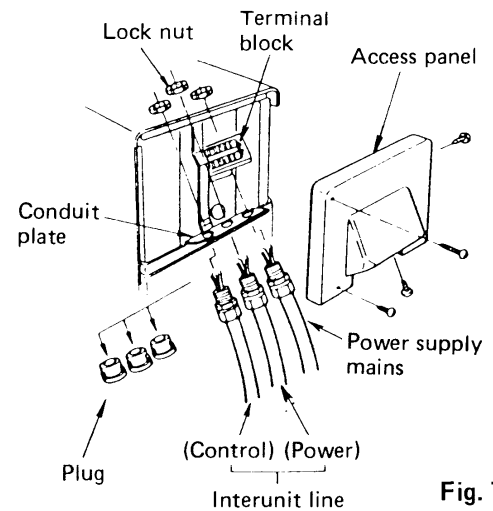

Fig. 7
- ⑥ When connections are completed, secure both connections on the panel with lock nuts and then close the panel. Fig. 7
- ⑦ Ground unit in accordance with local codes.